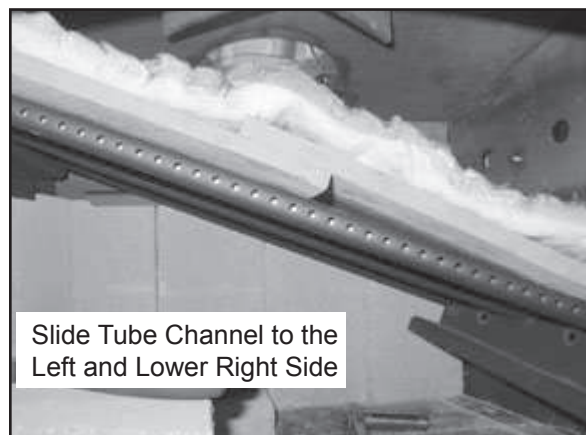

Figure 24.3
4. Slide the tube channel assembly to the left as far as it will go and lower the right side. Remove the baffle boards and ceramic blanket together. **Figure 24.3**.